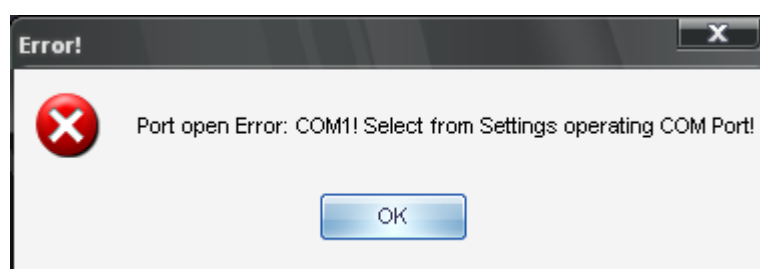

fig. 6.5. Error message
- if the service adapter is not connected, the error message will be displayed on the screen (fig. 6.5);